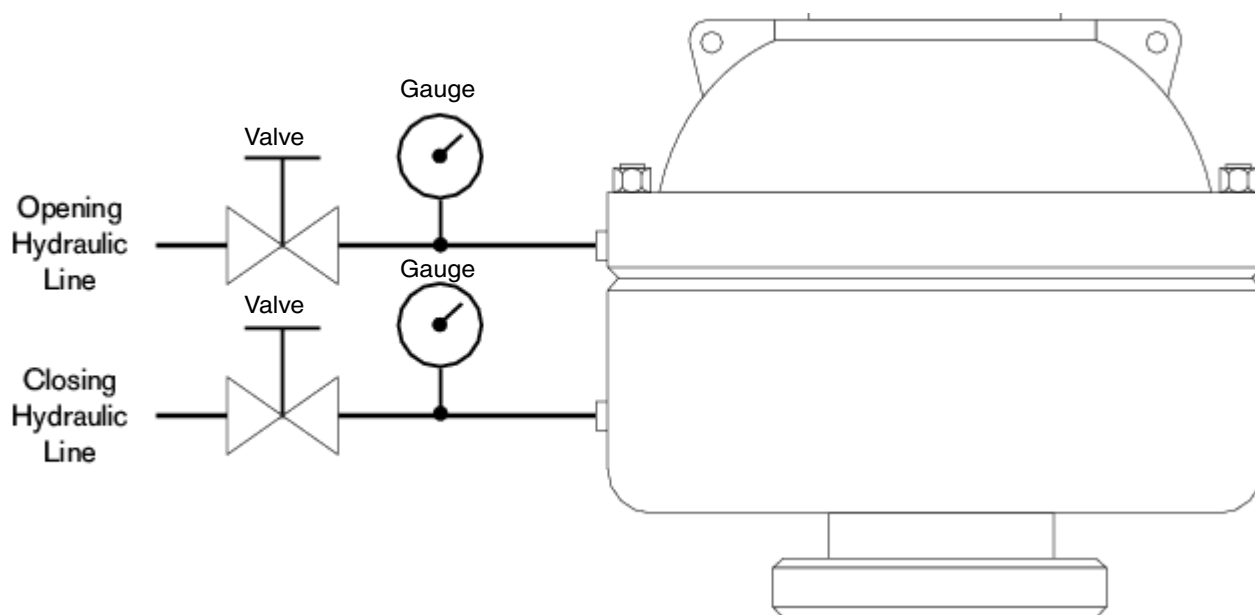

Figure 3-11. Hydraulic Hookup
Install a gauge and valve in both the closing and opening hydraulic lines (see Figure 3-11).
1. Install a gauge and valve in the opening and closing hydraulic lines in the Spherical (see Figure 3-11 on page 3-17).